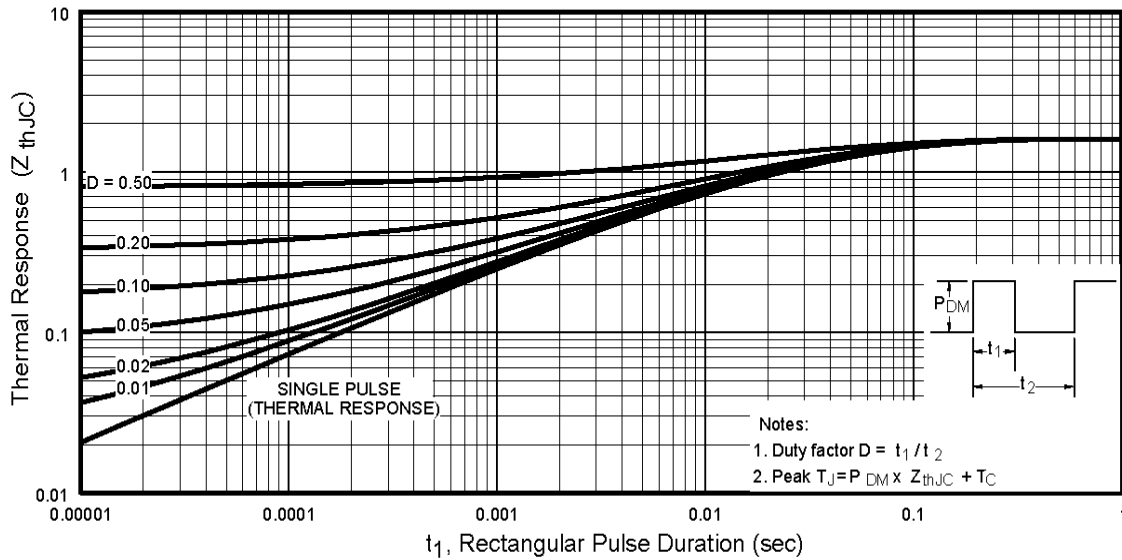

Fig 11. Maximum Effective Transient Thermal Impedance, Junction-to-Case
- ① Repetitive rating; pulse width limited by max. junction temperature. (See fig. 11)
- ② $V_{DD} = 25V$, starting $T_J = 25^\circ\text{C}$, $L = 4.9\text{ mH}$